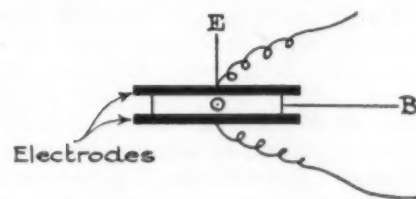
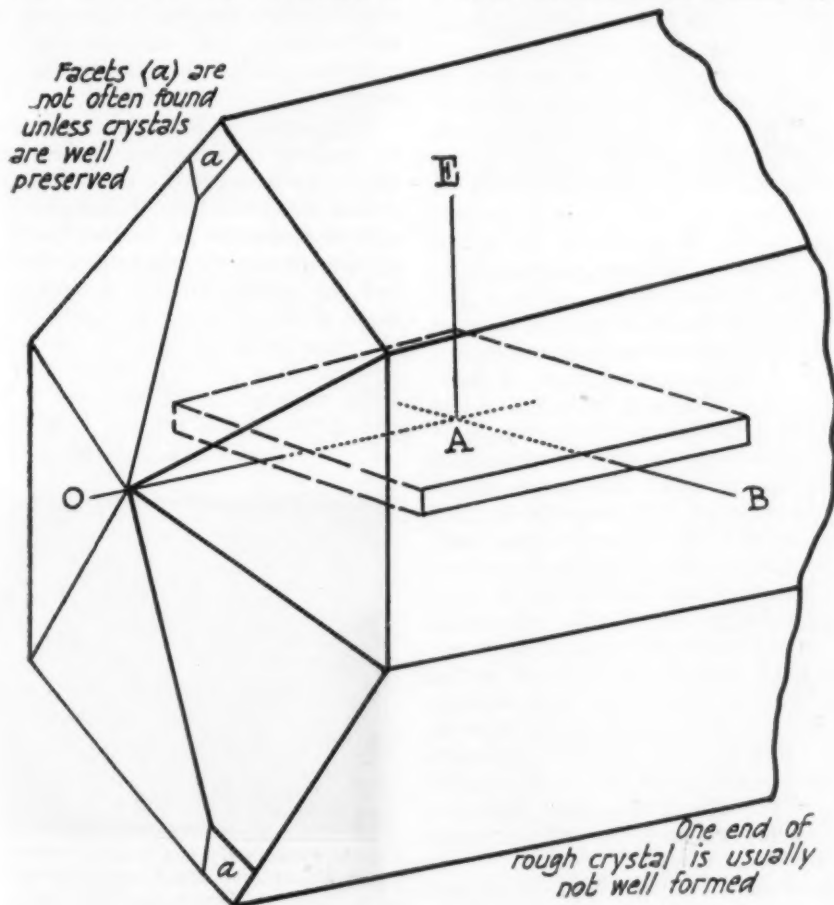

Fig. 3. Finished Crystal Between Electrodes.
Fig. 2. Orientation of Axes in Quartz Crystal.
shown in Fig. 2. When these are determined a number of sections parallel to that shown in the plane OAB may be cut from a single crystal.
pendicular to the rough one of Fig. 2 and put it between two brass plates which will hereafter be called the *electrodes*. Fig. 3 shows the resulting arrangement together with the previous designation of axes. The OA axis is shown perpendicular to the plane of the paper. If experiments are performed with this combination and suitable measuring apparatus it is possible to prove experimentally the following laws: I. Compression along the electric axis results in charging the electrodes with equal and opposite charges of electricity. Stretching the crystal along the BA axis produces charges on the electrodes having signs corresponding to those of compression along the electric axis. Stretching the crystal along the electric axis also produces equal and opposite charges on the
(1) One end of the rough crystal should have the typical configuration shown in Fig. 2, or at least, should possess as much of this detail as possible. The left hand picture of Fig. 1 shows the well preserved end of a small rough crystal. The facets a of Fig. 2 are usually not to be found owing to the rough handling which the crystals receive at the mines.
(2) As many as possible of the six prismatic edges should be intact.
(3) The crystal should be as regular (faces and edges parallel) as possible.
(4) There should be as much freedom from interior flaws and non-uniform structure as possible. If it is difficult to examine the interior owing to unpolished surfaces, the application of a generous coating of any clear oil will greatly assist in this examination. Only the perfectly clear portion of any rough crystal can be used.